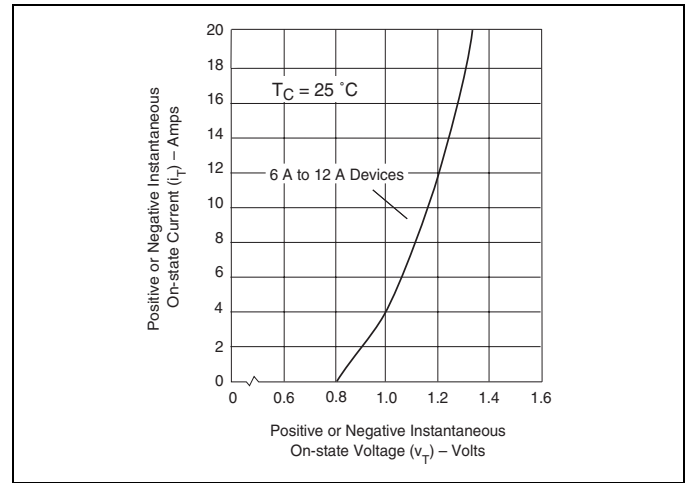
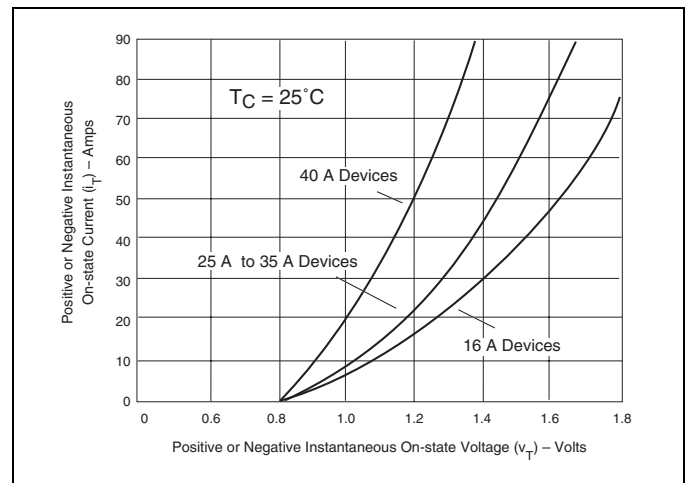

Figure E4.5 On-state Current versus On-state Voltage (Typical) (6 A to 12 A)
Figure E4.6 On-state Current versus On-state Voltage (Typical) (16 A to 40 A)
- See Figure E4.5 and Figure E4.6 for i_T and v_T.